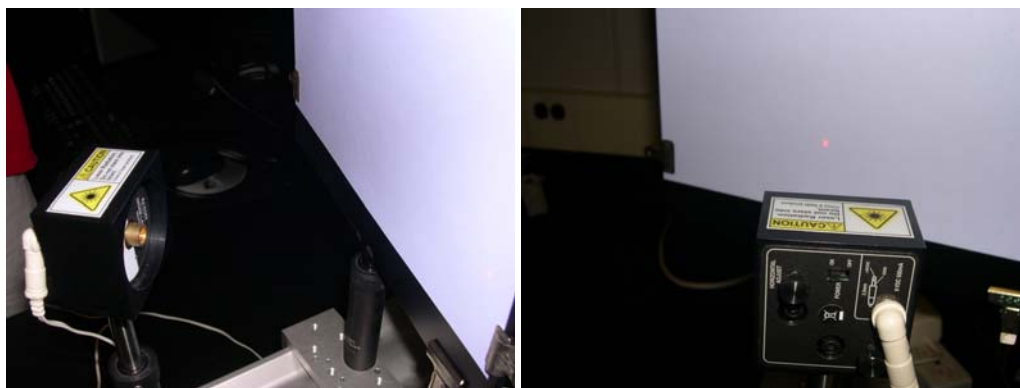

Figure 8.8: The digital spectrometer with a white USB cable and blue optical fiber plugged in.
Today we'll be investigating the spectrum of light that is emitted from various sources. In the past we used a setup similar to what is shown in Figure 8.5 where you viewed the spectral lines through a prism. Now digital spectrometers (as shown in Fig. 8.8) are readily available. You will use one to make precise measurements of the intensity of the different wavelengths of emitted light for a given source. In order for you to be able see with your eyes what the digital spectrometer “sees” you will first look at each source through a diffraction grating.
- Digital spectrometer with optical fiber (Ocean Optics USB650 Red Tide) (see Fig. 8.8)
1. Connect the SpectroVis Plus spectrometer to the USB port of a computer. The white cable in Fig. 8.8 is the USB cable. Start the Logger Pro data collection program, and then choose **New** from the **File** menu.
2. Connect a SpectroVis Optical Fiber (the blue cable being held in Fig. 8.8) to the cuvette holder of the spectrometer (which is located on its bottom).